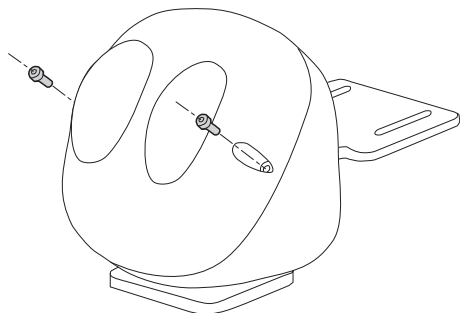

Fig. 1
Unscrew the screws and lift the shell (Fig. 1, page 5).
Close Pan & Tilt. Tighten the screws with a torque of 1.2Nm (Fig. 1, page 5).
2. Unscrew the screws and lift the shell (Fig. 1, page 5).
10. Close Pan & Tilt. Tighten the screws with a torque of 1.2Nm (Fig. 1, page 5).